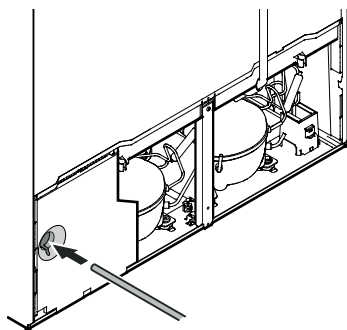

Figure 14
2. Insert the water supply line into its intended opening at the back of the appliance (Figure 14).